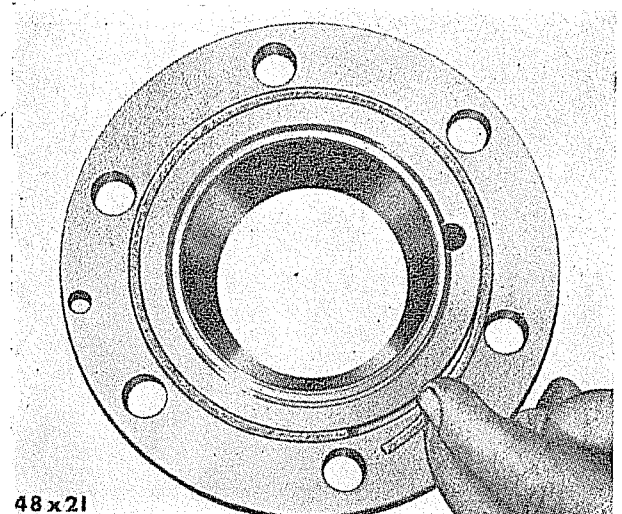

Fig. 43—Replacing Pinion Cage Cork.
- (9) Remove pinion bearing cage cap screws.
- (10) Use ball peen hammer to drive out bevel pinion assembly. Note shims under pinion bearing cage. Check for end play in bearing before disassembly.
- (11) Take out cotter pin, loosen pinion shaft nut and slide off companion yoke.
- (12) Lift off pinion bearing cage, bearing and washer. Slip off pinion bearing spacer.
- (13) Remove rear pinion bearing, using a suitable puller or by inserting a soft drift between the pinion teeth and tapping off with a hammer.
- (14) Remove pinion bearing cone and washer from cage assembly. Take out pinion bearing cage cork (Figure 43). Cork must be replaced before assembling.
- (15) Instal differential assembly in a vice, gear side down. Remove lock wires from support case bolts and remove the bolts.